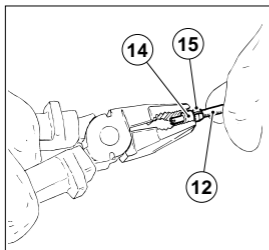

Fig. 10
- grip the part with the largest diameter, using pliers, and pull the connector plug (14, fig. 10) out of the tube end (12);
- use a screwdriver to widen the the end of the biconal bush (15) and slide it up the tube (12);